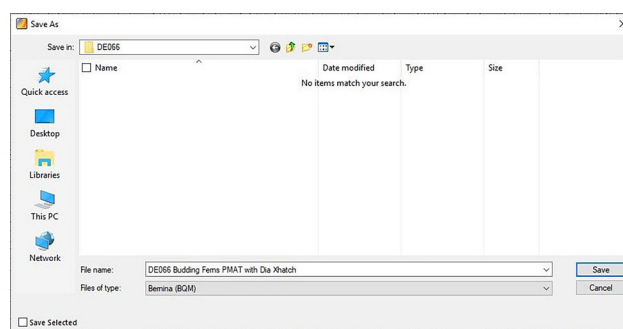

Fig. 90
7. In the File Name box, rename the file or use the previous name. In "Files of Type" at the bottom of the screen, select the dropdown menu and change the file to a BERNINA BQM file type (Fig. 90). Select Save.